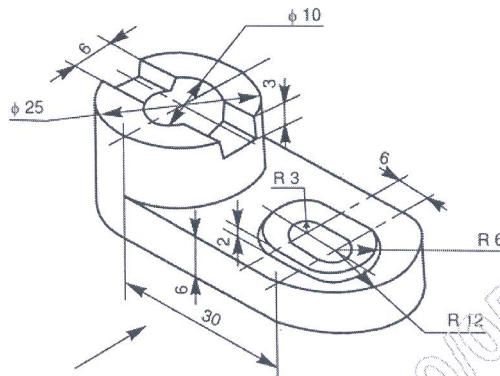

Fig. 1: Shaft bracket
1. Draw (i) the sectional view from the front, (ii) the view from above and (iii) the view from right of the shaft bracket shown in Fig. 1. **(20 Marks)**